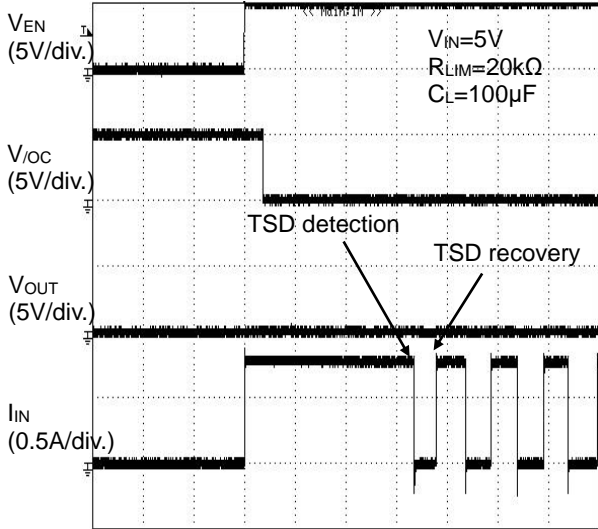

Figure 40. Over Current Response Enable Into Short Circuit
(1) When the switch is turned on while the output is in short circuit status, the switch gets into current limit status immediately. (See figure 40.)